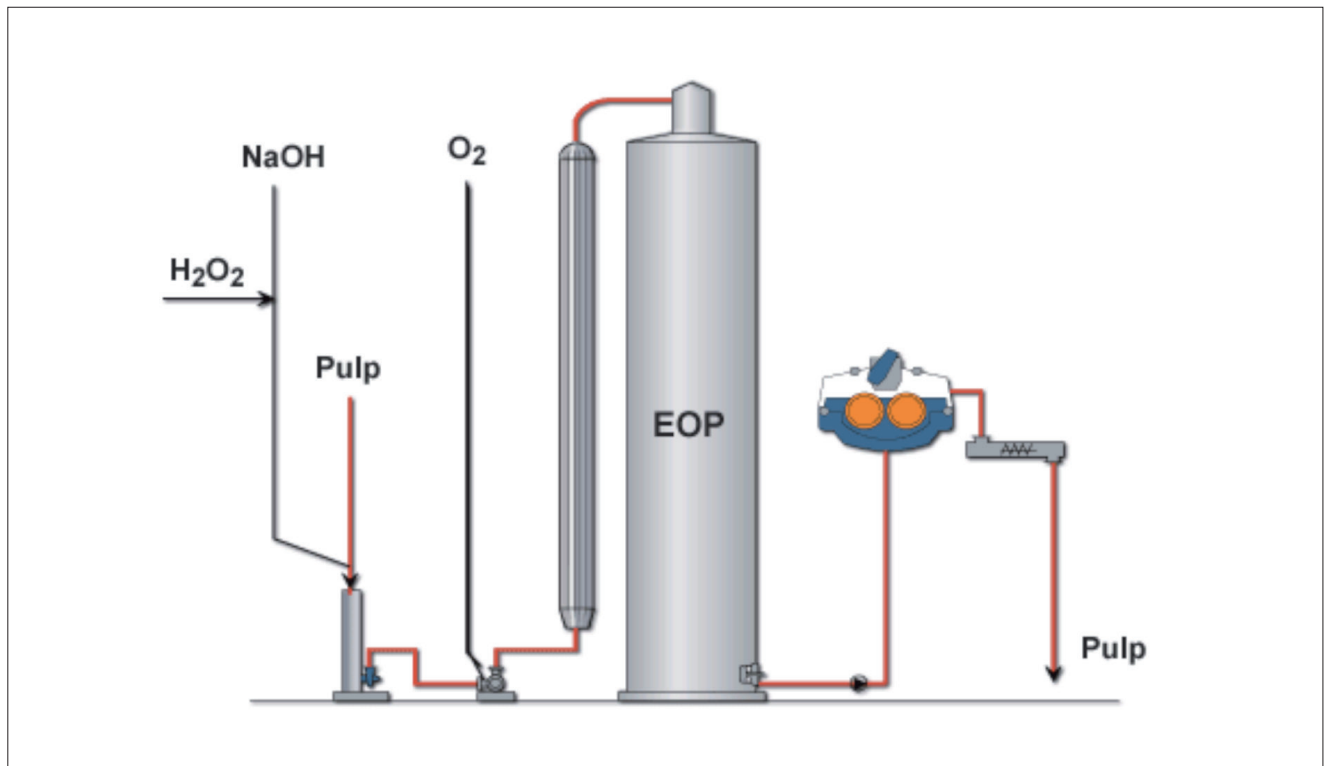

Fig. 1. Alkaline stage E.
Bleaching is usually done in 3 - 5 sequences with intermediate washing between stages. One or two chemicals are used in one stage. An alkaline stage E is usually located after the initial stage D_0 . Depending on the used oxidants the stage is called alkaline stage E, EO or EOP. Figure 1 shows a typical alkaline stage that uses oxygen (O) and hydrogen peroxide (P).